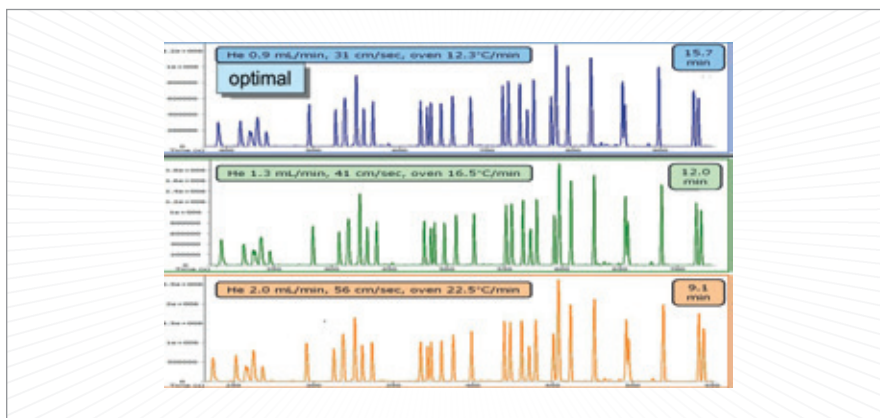

Figure 1. Separation of polybrominated diphenyl ethers at increasing gas velocity.
i) Use the column flow for higher velocity separations. Surprisingly, not many people use this powerful option, and yet you can use it immediately because all GC systems are equipped with electronic flow/pressure/gas-velocity controls. By separating at a higher gas velocity, it is possible to reduce the analysis time by a factor of 2–5. The system is not optimal with respect to plates, but because we have sufficient resolution, we can trade plates for time (see Figure 1). The additional advantage is that the fastest eluting peaks will be higher than the rest. If you do not want to change the injection conditions that you were/are already using, you can program the higher velocity injection to start after the first injection is complete.